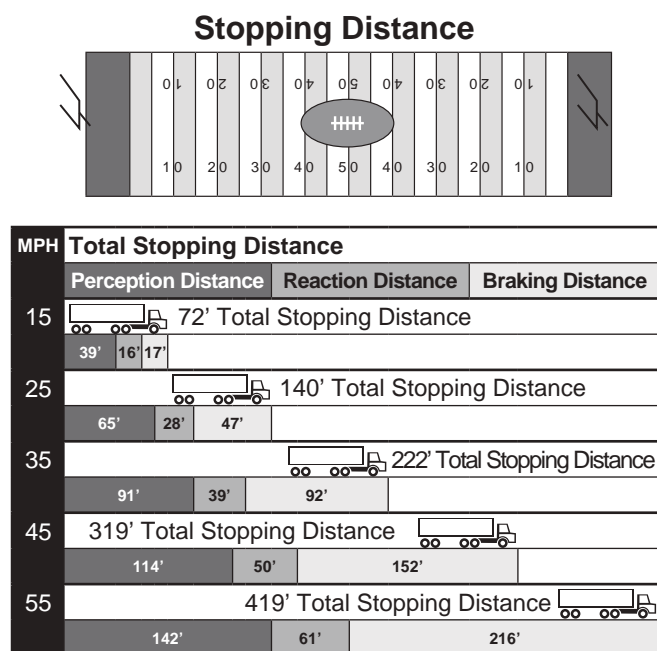

Figure 2.11
**Total Stopping Distance.** The total minimum distance your vehicle has traveled, in ideal conditions; with everything considered, including perception distance, reaction distance and braking distance, until you can bring your vehicle to a complete stop. At 55 mph, your vehicle will travel a minimum of 419 feet. See Figure 2.11.